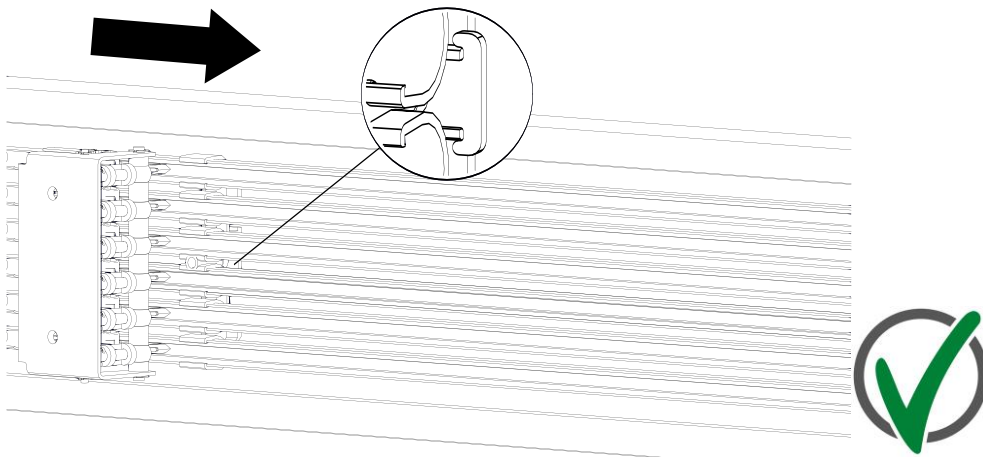

Fig. 48: Insert is mounted in the travel direction of the current collector
For systems that are operated in towing mode, Conductix-Wampfler recommends mounting the insert (1) in the preferred direction of travel of the current collector (see Fig. 48)!